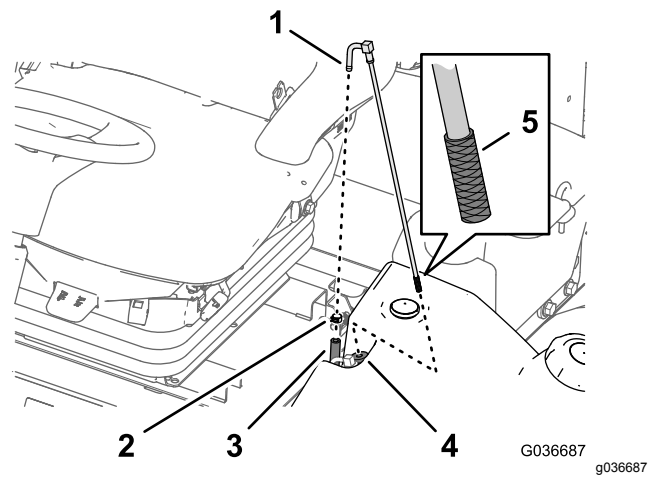

Figure 91
2. Separate the hose from the fitting (Figure 91).
3. Lift the fuel-pickup tube from the fuel tank (Figure 91).
4. Clean any debris from the screen at the end of the fuel-pickup tube (Figure 91).
5. Insert the fuel-pickup tube through the rubber bushing and into the tank (Figure 91).
1. Remove the hose clamp that secures the fuel supply hose to the fitting of the fuel-pickup tube (Figure 91).